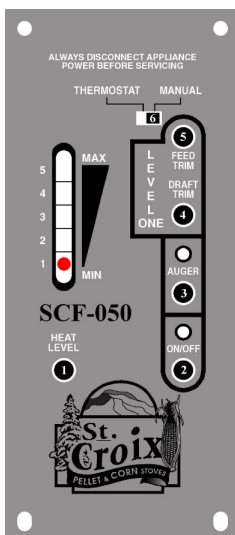
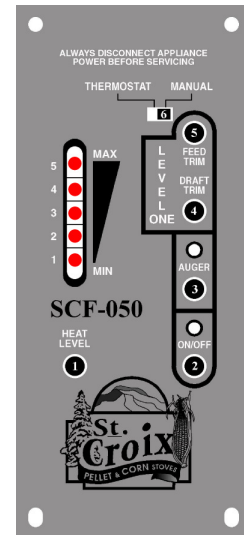

Figure 2
Figure 5
2. The On/Off button (2) turns the Furnace On and Off. It will also reset the board after the board has sensed a problem and is flashing a Diagnostic code.
3. The Auger button (3) will allow the customer to manually auger fuel into the burn pot on start up when needed. This is particularly helpful in priming the Auger Tube when it is empty.
4. The Draft Trim button (4) allows for adjusting the Exhaust fan voltage on Heat Level 1 only. Push the button and the all of the LED Lights in the light bar will flash once (See figure 5). This decreases the voltage approximately 5 volts below the default setting. Push the button a second time and all of the LED Lights in the light bar will flash twice. (See figure 5) This increases the voltage approximately 5 volts above the default setting. Pushing the button a 3rd time will reset the voltage to the default setting. This adjustment is available to fine tune the #1 Heat Level draft setting. This would only be used in the case the furnace was hooked up to a tall Vertical Chimney (to decrease the draft if needed) or if it was connected to a Chimney with a long Horizontal run (to increase the draft if needed).
5. The Feed Trim button (5) will allow the Fuel feed rate to be adjusted on Heat Level 1 only. Heat Level 1 should be seen as the Pilot setting of the furnace, when operating on a Thermostat. Pushing the Feed Trim button (5) will switch between the different adjustments. Heat Level one can be adjusted in the following ways:
- a. The first LED only indicates the Normal #1 setting. (2.5 second on time). This is the highest Pilot setting and may be used when heating a larger size home. (See figure 2)